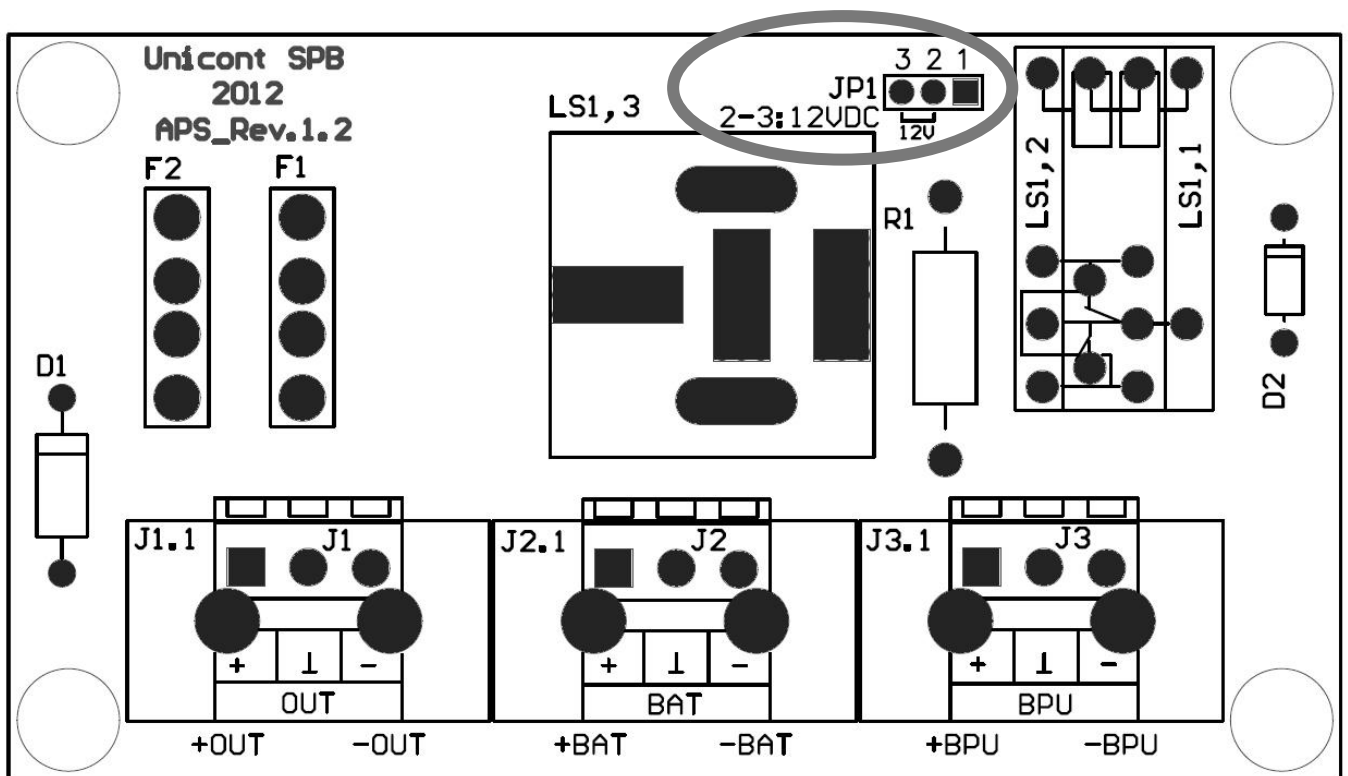

Fig. 3 Connection diagram.
- jumper «JP1» from 1-2 set to 2-3 (see Figure above for «JP1» location (Fig. 3)).